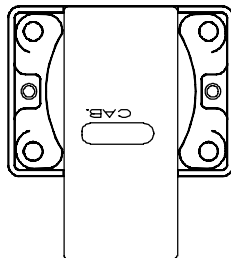

Fig. 3a - Back of drawer lock with bolt installed.
STEP 5 - Install the bolt so that the "CAB" side is facing you. The bolt throw should be beyond the bottom of the lock as indicated in Fig. 3a.